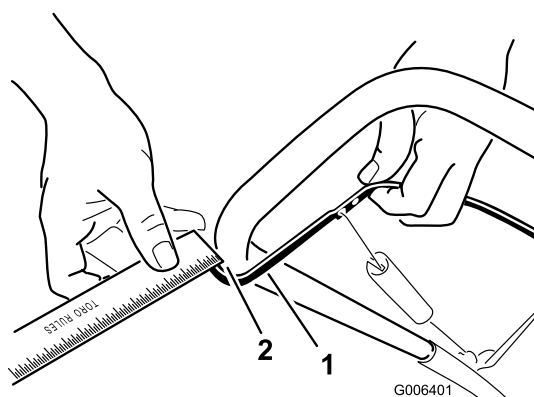

Figure 25
Move the control bar back toward the handle to remove the slack in the control cable (Figure 25).
Note: Ensure that a 2 mm to 3 mm (1/16 inch to 1/8 inch) gap exists between the control bar and the handle (Figure 25).
2. Move the Z-fitting to a higher or lower hole on the adjuster link as needed to obtain the 1/16 inch to 1/8 inch (2 mm to 3 mm) gap between the control bar and the handle (Figure 25).